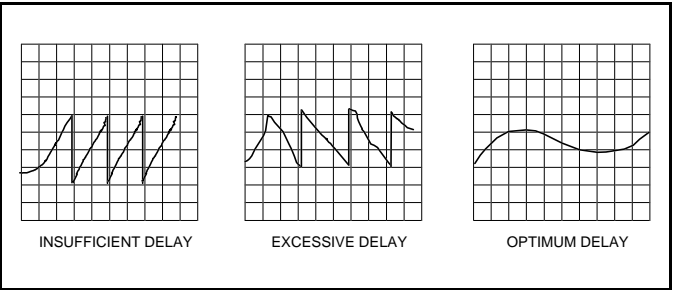

Figure 11 - Delay Waveforms
7. Adjust the test delay to "match" the equipment and propagation delay to/from the site/channel being measured. It is usually in the order of several milliseconds, and can be found empirically by "removing the sawteeth" resulting from the 360 degree wraparound as shown in Figure 11. Write down the delay value required for the reference site.